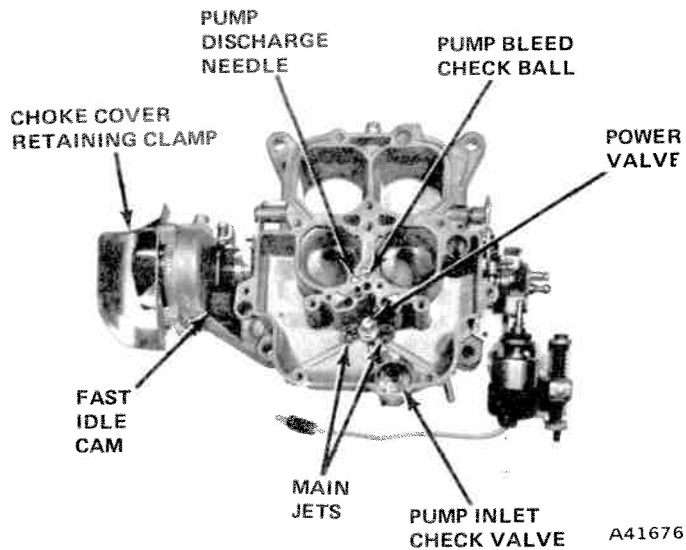

Fig. 4-67 Fuel Bowl Interior
(13) Turn main body upside down and catch accelerating pump discharge needle (fig. 4-67).
(14) Remove the power valve from the floor of the main body fuel bowl using a 3/8-inch deep socket.
(15) Remove main metering jets from the fuel bowl with Tool J-10185.